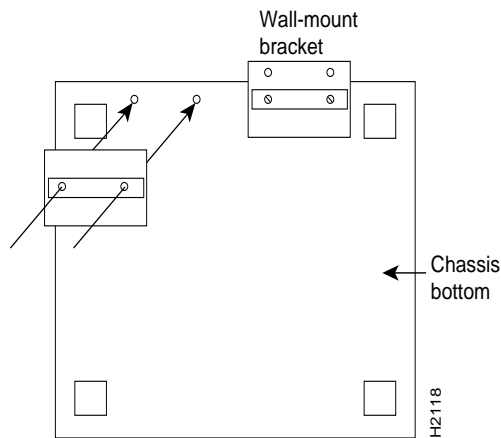

Figure 3-3 Attaching the Wall-Mount Brackets to the Bottom of the Concentrator
- Step 5** Attach the wall-mount brackets to the concentrator with the supplied machine screws. Figure 3-3 shows where to install the brackets.